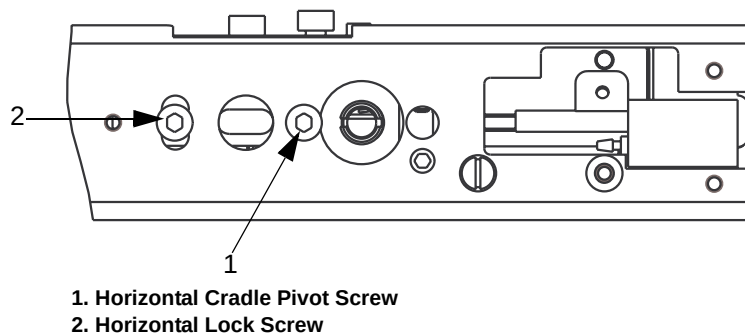

Figure 6-21: Stream Alignment - Center
- a. Turn the horizontal lock screw (Item 2, Figure 6-21) half a turn to the left, which releases the horizontal cradle lock.
- d. Tighten the horizontal lock screw and the horizontal pivot screw (Item 1, Figure 6-21 on page 6-22) to engage the horizontal cradle lock.